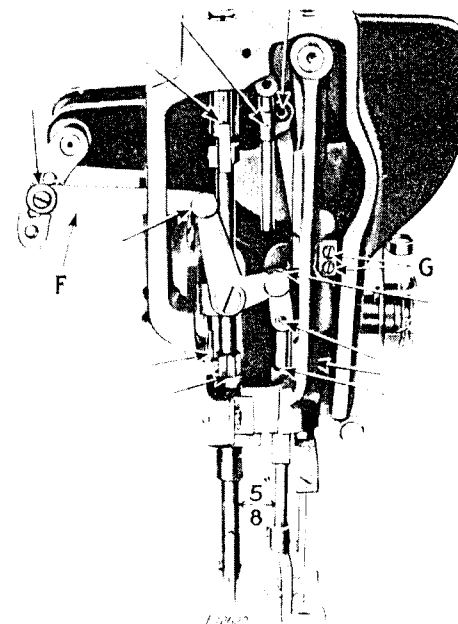

Fig. 4. End View of Machine Showing Oiling Points
In case the needle bar is not correctly set, loosen the needle bar connecting stud pinch screws (G, Fig. 4) and place the needle bar in correct position as directed above, then retighten the screws (G).
The distance between the vibrating presser bar and lifting presser bar, after turning the feed regulating spindle head so that there is no feed movement of the needle bar, should be  $5/8$  inch as shown in Fig. 4.
The height of lift of the pressers is adjustable by moving the link (F, Fig. 4) to any of the four holes in the rock shaft crank. The maximum lift is secured with the link in the bottom hole. The amount of lift should be regulated according to the thickness of the material being sewn. The feet should lift just high enough to clear the material.